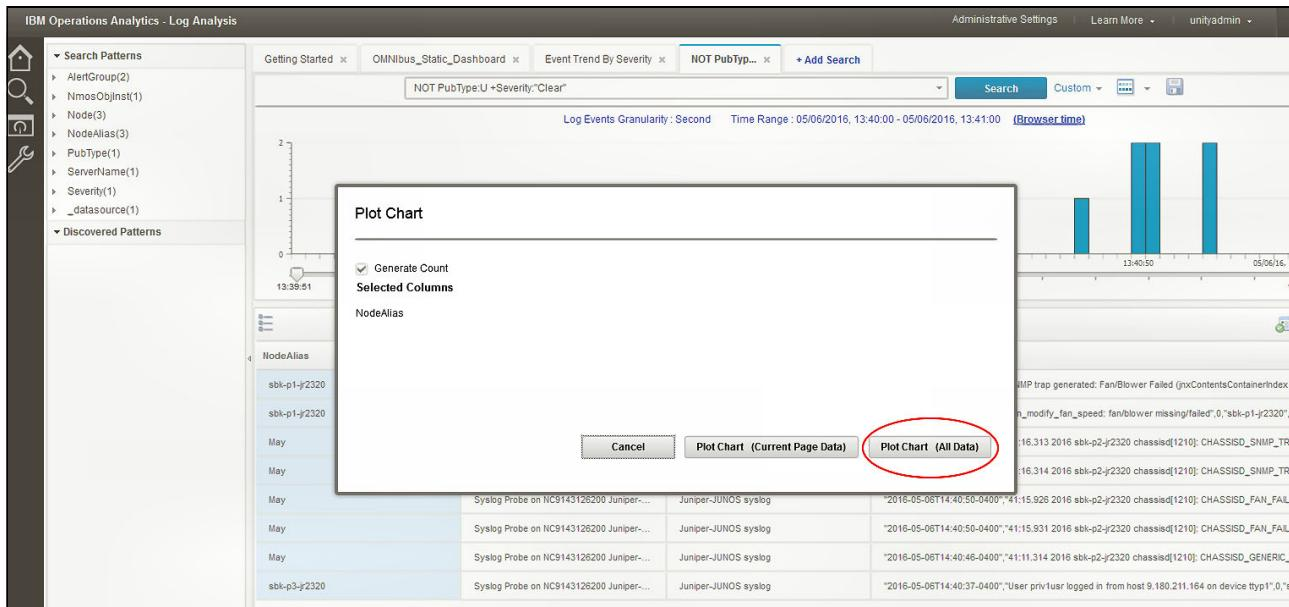

Figure 7-9 Generating plot with all data chart
- 14.She makes sure that Generate Count option is selected and then chooses the **Plot Chart (All Data)** button, as shown in Figure 7-9 on page 140.